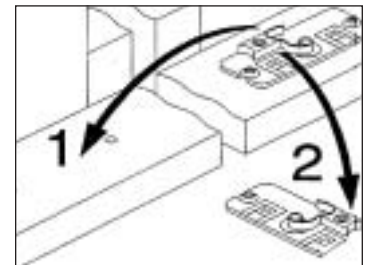
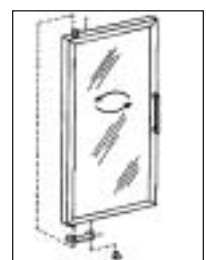

Fig. 1.1
Fig. 1.2
2. Move the door stop plate (found at the bottom of the door) to the opposite side of the door, so that the straight side of the door stop plate faces the front of the door, as shown in figure 1.1.
3. Remove the mounting plate and protection plate, and then attach them to the opposite side of the door (figure 1.1). Move the door's hold-open assembly to the opposite side of the mounting plate (figure 1.2). Reinstall the door, following the "Door Installation" instructions on page 4.